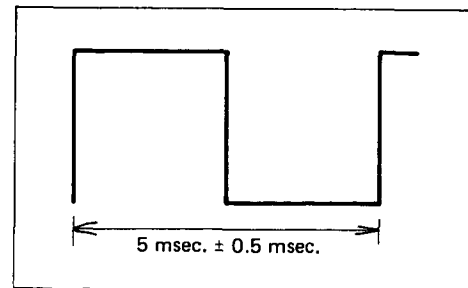

Fig. 1
2. Connect oscilloscope to IC9 (4013) 13-pin and confirm waveform in figure 1.